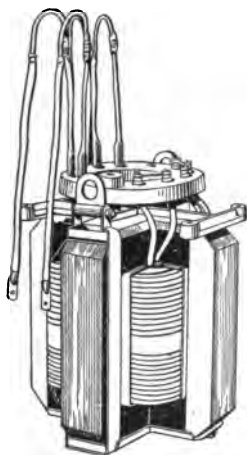
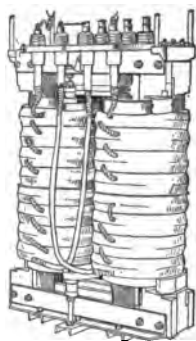

FIG. 321. — Shell type of transformer.
FIG. 320. — Core type of transformer.
**359. Commercial forms of transformer.** Transformers are built in two general types : (a) the **core type** (Fig. 320), in which the coils are wound around two sides of a rectangular iron core, and (b) the **shell type** (Fig. 321), in